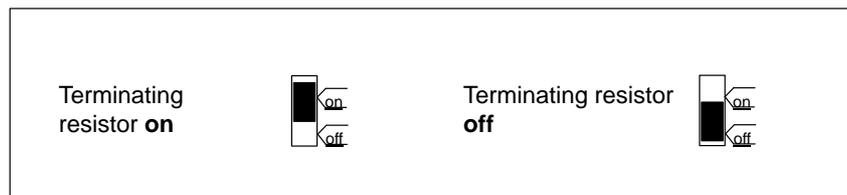

Figure 3-14 Bus Connector (6ES7 ... ): Terminating Resistor Activated and Deactivated
3. If the bus connector with the order number 6ES7 ... is located at the start or end of a segment, you must activate the terminating resistor (switch setting "ON") (see Figure 3-14 ).